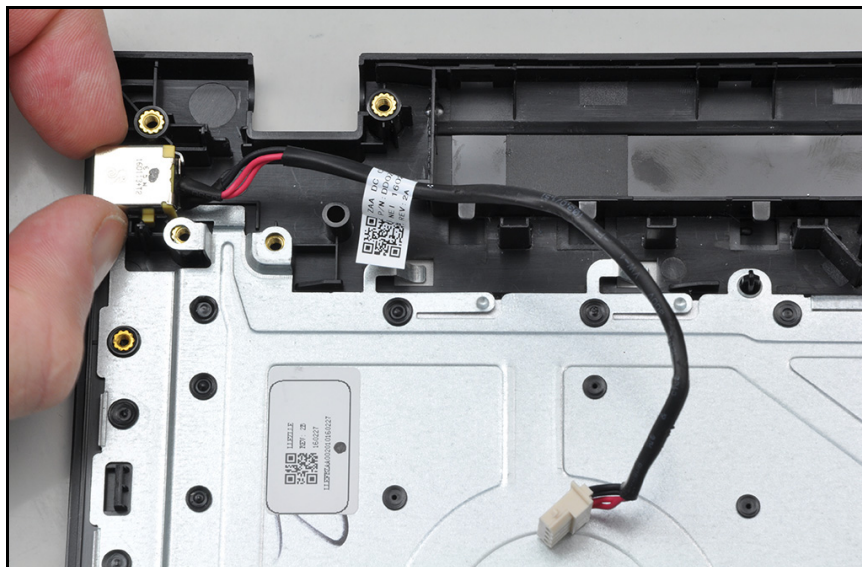

Figure 3-86. Replacing the DC-in Jack
1. Place the DC-in jack to its compartment on the top assembly (Figure 3-86).